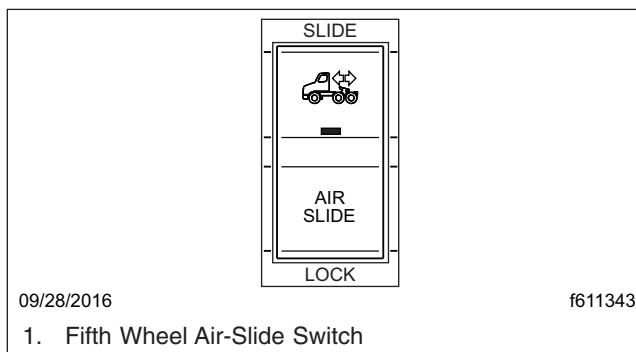

Fig. 20.14, Air-Slide Switch
The slide feature may be operated with an air switch mounted in the dash, that operates an air cylinder that locks and unlocks the slide. See Fig. 20.14.
1. Set the air-slide switch (Fig. 20.14) to SLIDE.